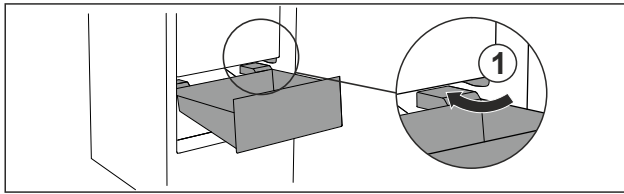

Fig. 98
- ▶ Guide drawer in at an angle around the stoppers Fig. 98 (1).